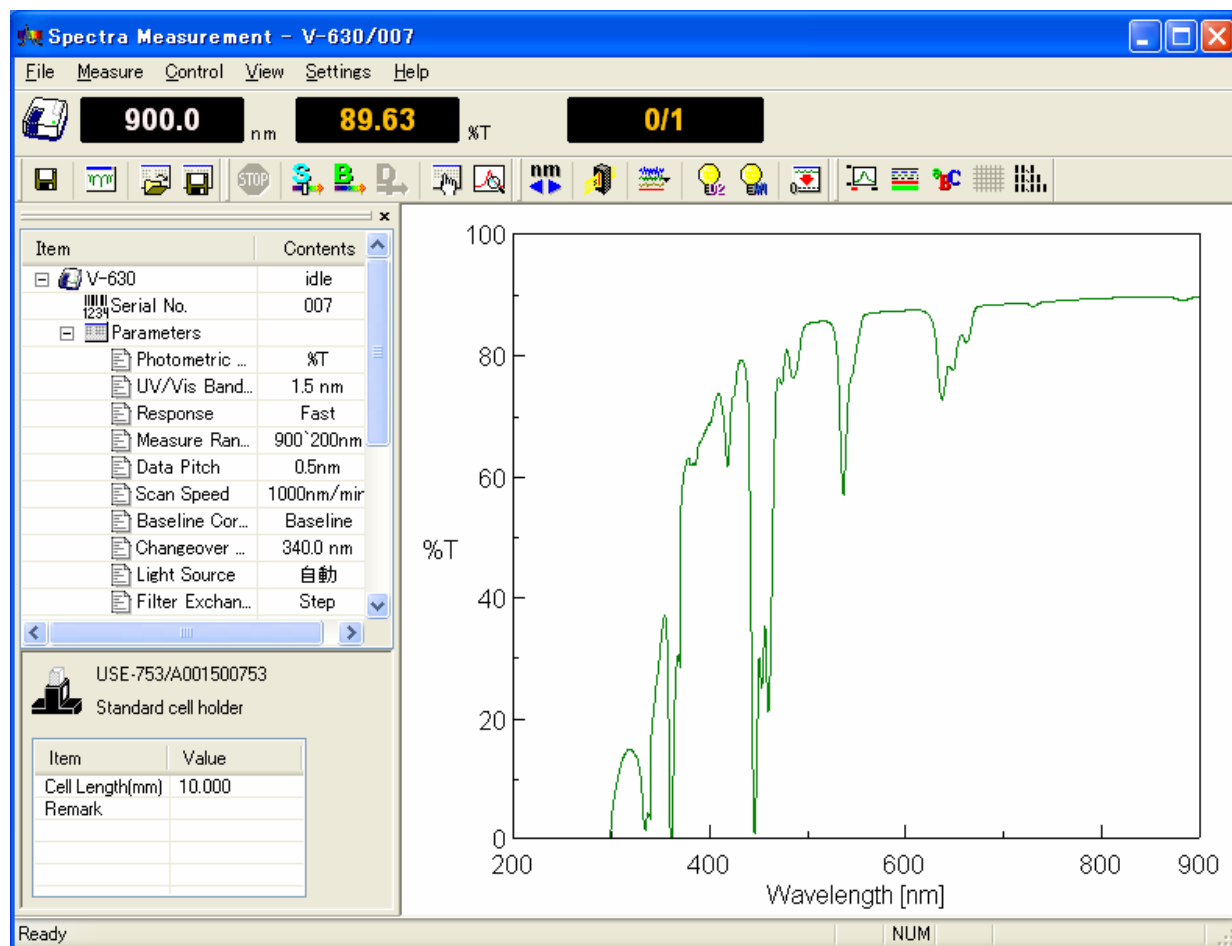

Figure 4.6 [Spectra Measurement] Screen
- (1) Once the baseline measurement is complete, insert the sample in the cell holder on the sample side (i.e. at the front) of the sample compartment and close the door.
- (2) Select the [Measure] - [Sample] menu (or click the  button). Sample measurement starts and the progress of the measurement is displayed in the window (see Fig. 4.6).